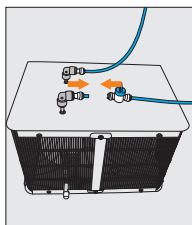
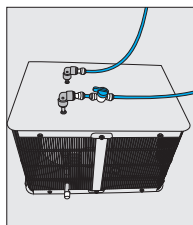
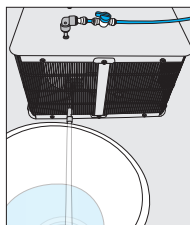

Figure 29
Figure 30
Figure 31
- 1.5 Reconnect the water inlet tubing (Figure 29) and partially turn on the water supply, allowing clean fresh water to flow through the unit into a bucket (Figure 30 and Figure 31). Repeat this step at least 3 times to remove all traces of sanitizing solution.